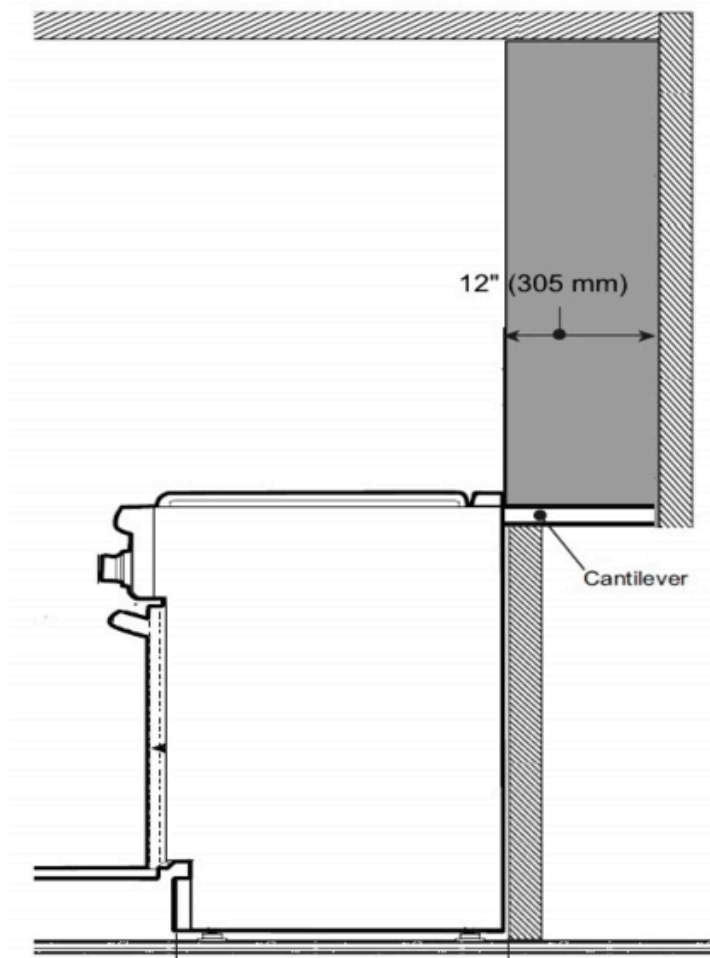

FIGURE 2
- When using the island hood recommends a minimum 12" (305 mm) rear clearance to a combustible surface (see Figure 2, Cabinet Clearances). Clearances from non-combustible materials are not part of the ANSI Z21.1 scope. Clearances of less than 12" (305 mm) must be approved by the local codes and/or by the local authority having jurisdiction.